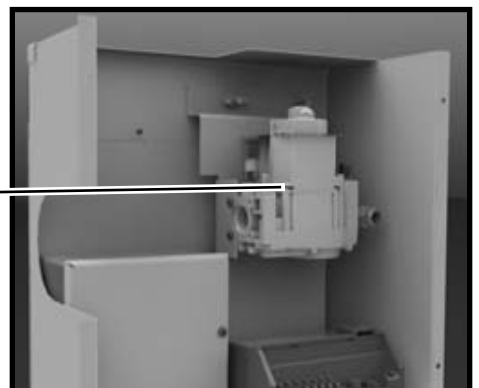

Figure 26: Gas inlet.
6. Connect the gas supply to the valve (Figure 26).
1. Connect the gas supply to the valve (Figure 26).